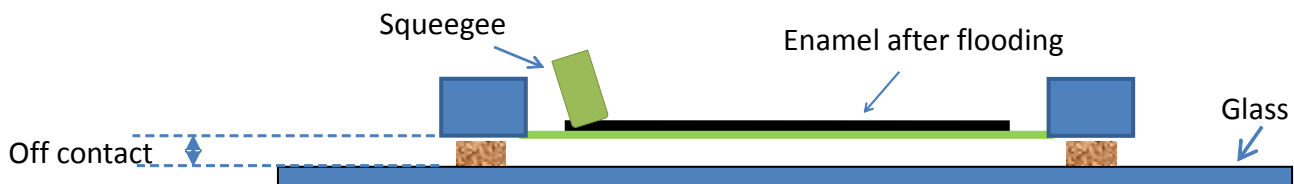

Figure 2 : Screen ready to print, after flooding
- Enamel is put on the screen, and **flood**, in homogeneous thickness, with the squeegee on the full design, **without pressure** to keep the off-contact between the screen and the glass while flooding (Figure 2)